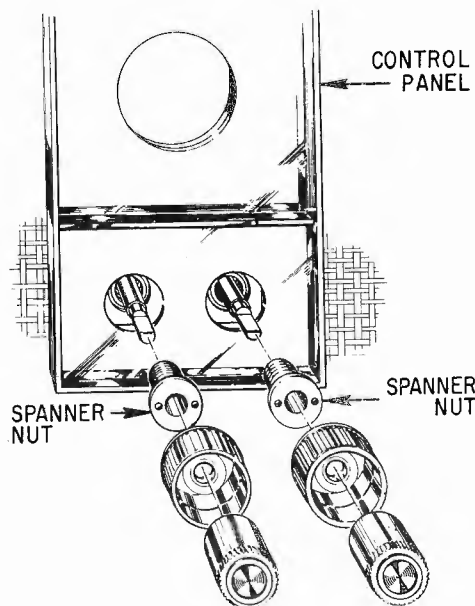

Figure 2. — Spanner Nut Removal
7. Remove tuner assembly from front panel by removing the spanner nuts from the Vertical Hold and Volume shafts (Figure 2) and the hex nut from the top of tuner mounting bracket. (To remove spanner nuts use Standard Equipment Item No. 21547 or equivalent.)